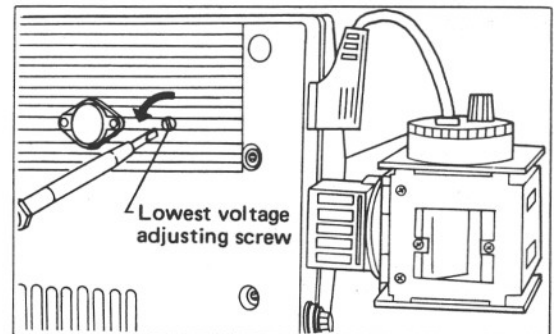

Fig. 10
- 2) Turn the lowest voltage adjusting screw on the bottom of the microscope base counter-clockwise to the limit, using a screw driver, as shown in Fig. 10.